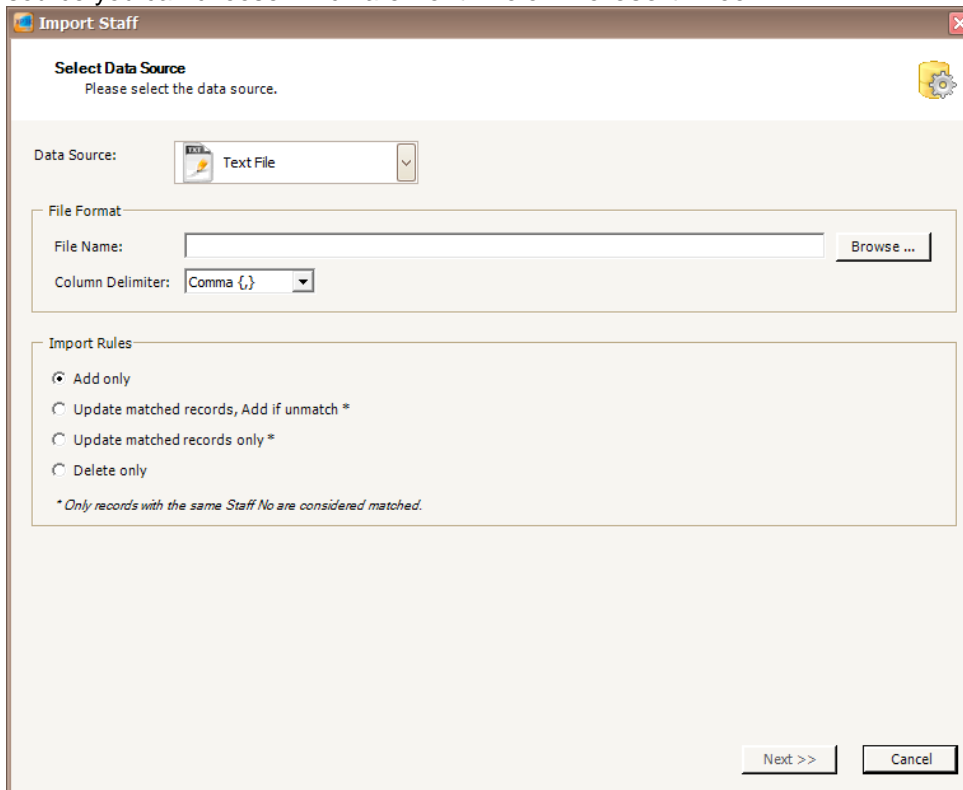

Figure 79 - Import Staff
4. The following screen will be shown (Refer **Figure 79**).